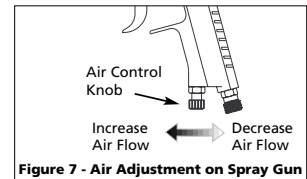

Figure 7 - Air Adjustment on Spray Gun
- Adjust air pressure to the spray gun according to the recommendations supplied with the spray material. This air pressure usually falls between 40 - 60 PSI. Adjust air pressure with the trigger pulled and air control knob (if applicable) fully open. If reduced air pressure is desired for some areas of the spray job, use air control knob to reduce pressure as necessary (See Figures 7 or 8).
1. Adjust air pressure to the spray gun according to the recommendations supplied with the spray material. This air pressure usually falls between 40 - 60 PSI. Adjust air pressure with the trigger pulled and air control knob (if applicable) fully open. If reduced air pressure is desired for some areas of the spray job, use air control knob to reduce pressure as necessary (See Figures 7 or 8).